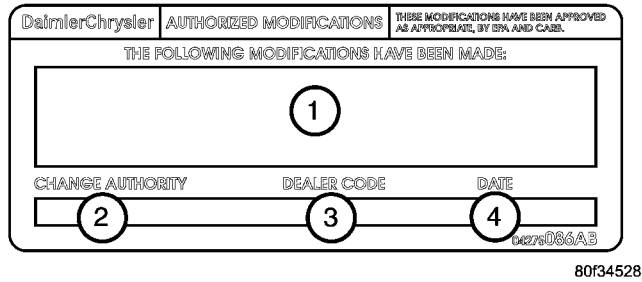

Fig. 1 AUTHORIZED MODIFICATION LABEL
3. Type the necessary information on the "Authorized Software Update Label" p/n 04669020 (Fig. 1). Attach the label to the PCM and/or TCM as necessary and cover the label(s) with the clear plastic overlay.